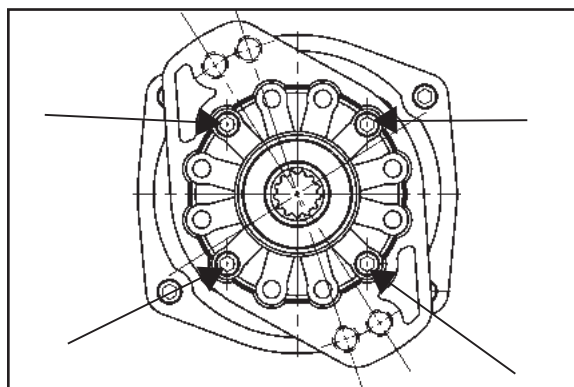

Fig. 9
9. If using a rotatable flange see Page 39 for bolt torque specifications. (**Fig. 9**).